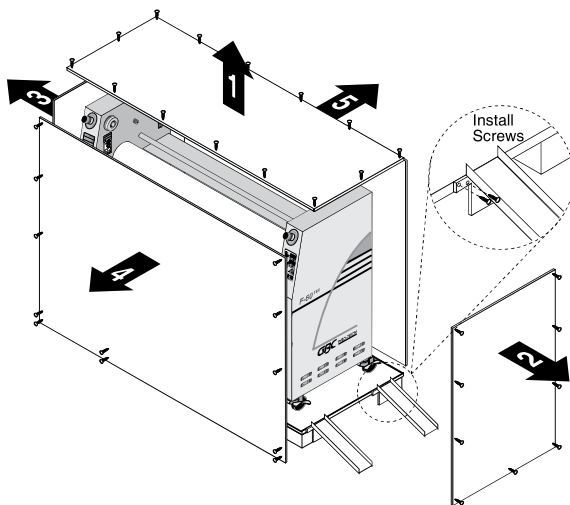

Figure 2-2: Removing the Crate
1. Remove the top of the crate and sides 2 and 3 as shown in Figure 2-2.
**A second person must support the side labeled (5) in Figure 2-2. It can fall and damage the laminator.**
10. The ramps included with the laminator can be secured to the edge of the crate bottom using the screws left over from the crate disassembly (see Figure 2-2).